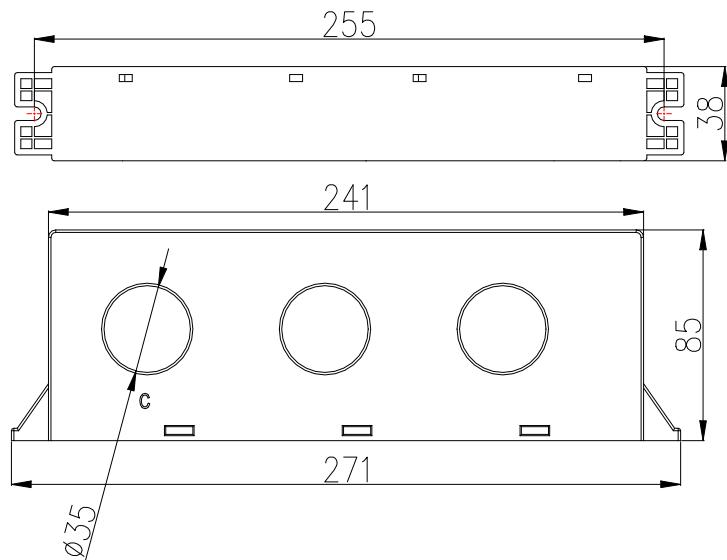

Figure 6 The external dimensions of split current transformer(250A and 800Acurrent specification)
5.3.2 The external dimensions of split current transformer (250A and 800Acurrent specification)are shown in figure 6(Unit: mm):